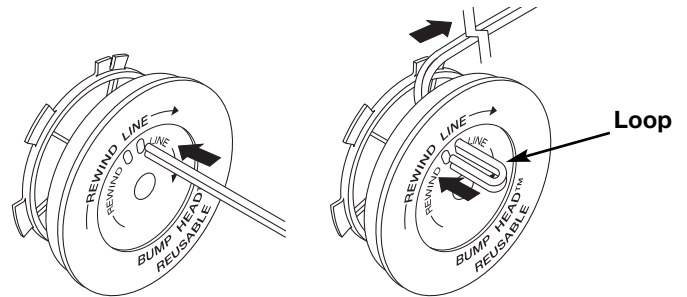

Fig. 18
- Take approximately 10 feet (3 m) of new trimming line. Insert one end of the line through one of the two holes in the inner reel (Fig. 18). Pull the line through the inner reel until only about 4 inches is left out.
- Insert the end of the line into the open hole in the inner reel and pull the line tight to make the loop as small as possible (Fig. 18).